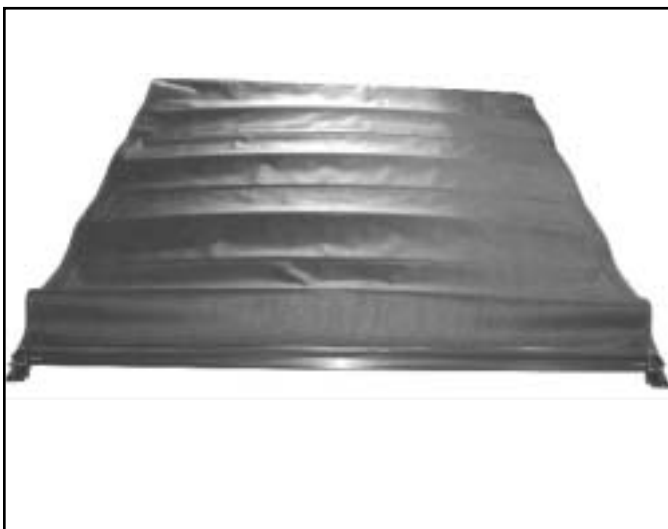

Figure S-66
19. Turn the reinforcement down in order for the guide bushings to run into the track and open the tonno cover. See figure S-66.